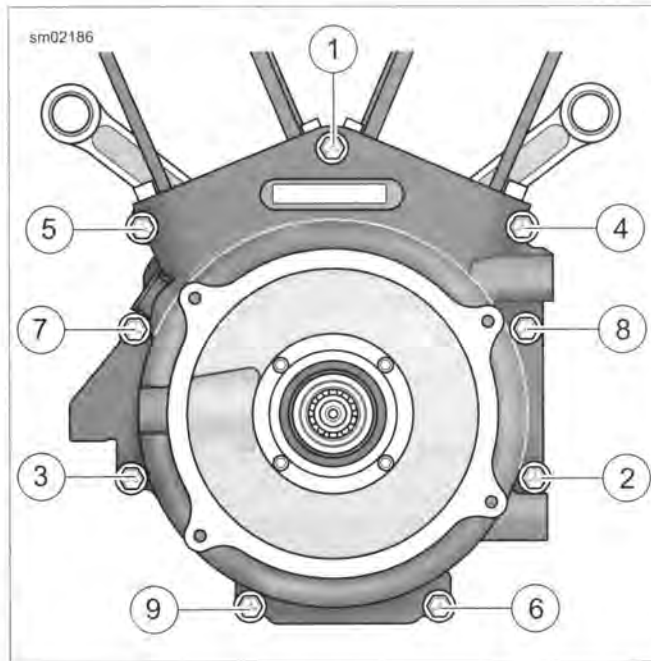

Figure 3-112. Crankcase Bolt Sequence
3. See Figure 3-112. Remove the nine crankcase bolts in the sequence shown.